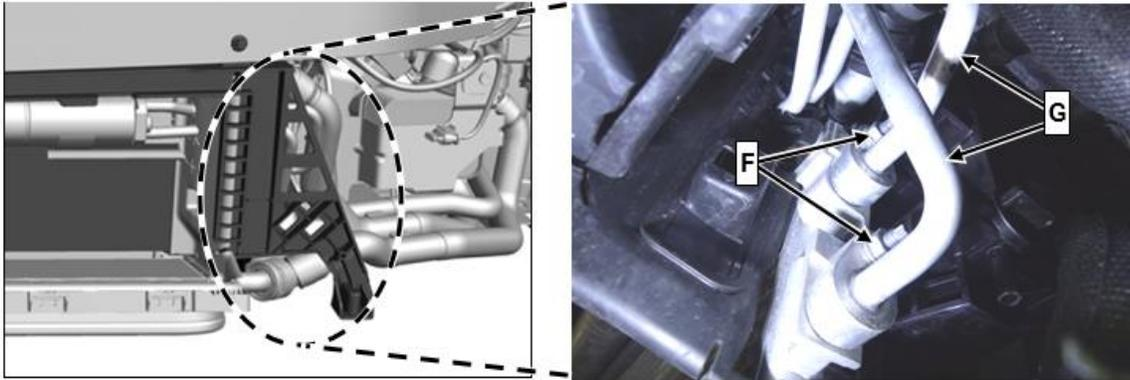

Figure 3
7. Unscrew nuts (**F, Figure 3**).
8. Remove refrigerant lines (**G, Figure 3**).